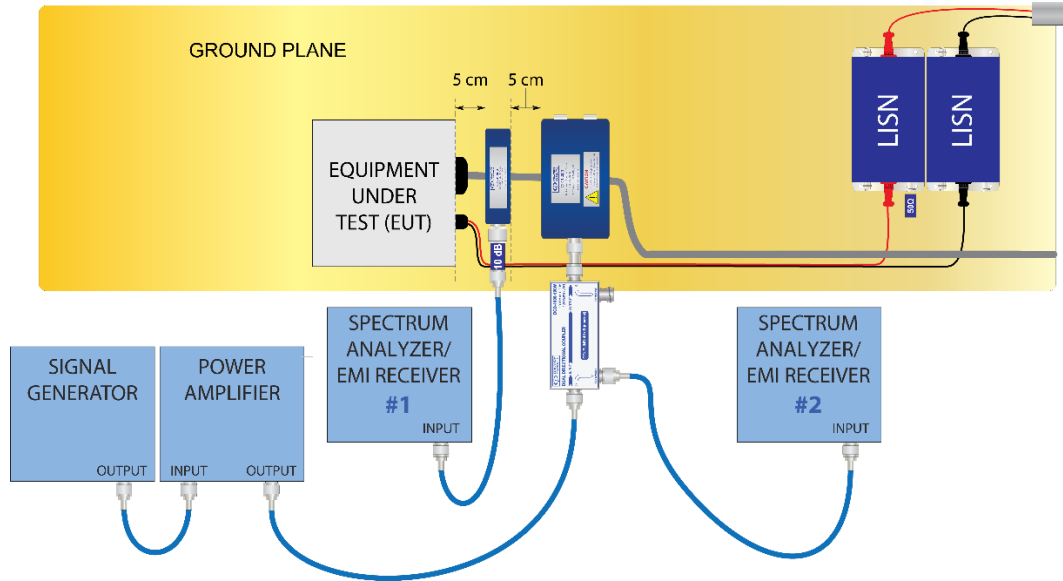

Figure 16 – Example Test Setup Diagram for EUT Testing
- 1) Set up the equipment as described in the applicable standard or approved test plan. An example setup diagram is given in Figure 16. Refer to MIL-STD-461G or the applicable test plan to determine the EUT cables to be tested.